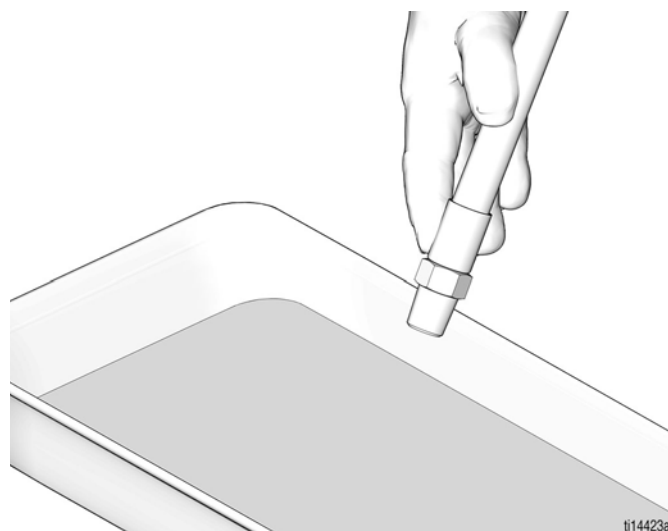

FIG. 14
1. Place the end of the dispense hose into a grounded metal waste container. Hold the hose firmly against the waste container throughout the flushing process (FIG. 14).